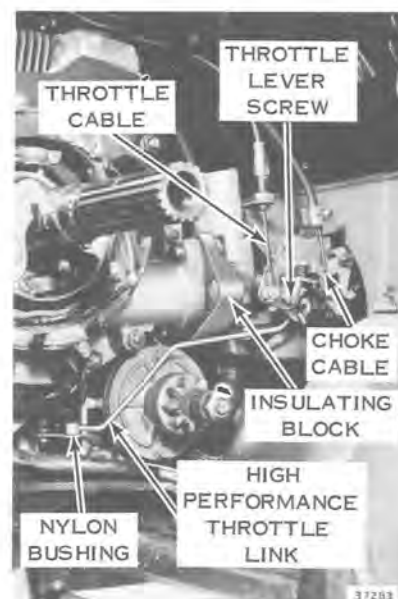

Figure 6-3
- d. Cut tie strap and remove primer line. Remove throttle lever screw and throttle lever from carburetor to simplify removal of left flange nut. See Figure 6-3.
- f. Shift carburetor a little and disconnect the lower end of the high performance throttle link from the nylon bushing. See Figure 6-3.